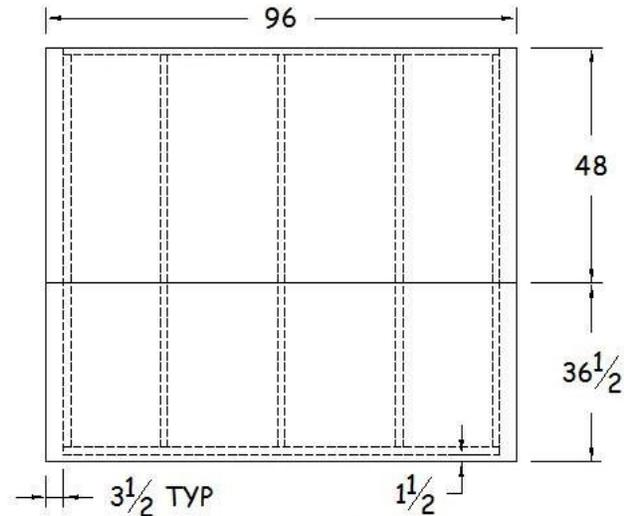

Figure 22-8. Back Wall Sheathing – One Req'd.
- c. Cut an additional piece of 1/2" OSB. approximately 36 1/2" x 96", to fit below the upper section of OSB. This piece should fit flush to the upper OSB piece, overhang each side by 3 1/2" and overhang the bottom plate by 1 1/2". A scrap piece of 2x4 can be used as a gauge for the 3 1/2" end overlap. Nail into all studs and the bottom plate with 8d nails every 6". See Figure 22-8.